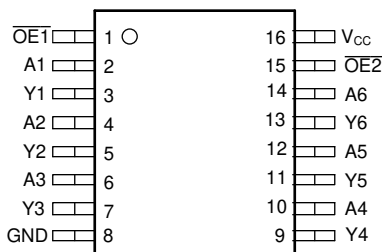

Figure 4-1. Pin Diagram (D SOIC (16) and PW TSSOP (16)) Packages
4.1 D SOIC (16) and PW TSSOP (16) Packages
Figure 4-1 shows the SN74HCS365-Q1 pin diagram for the D SOIC (16) and PW TSSOP (16) packages. For a detailed description of the device pins, see the *Pin Configuration and Functions* section in the SN74HCS365-Q1 data sheet.